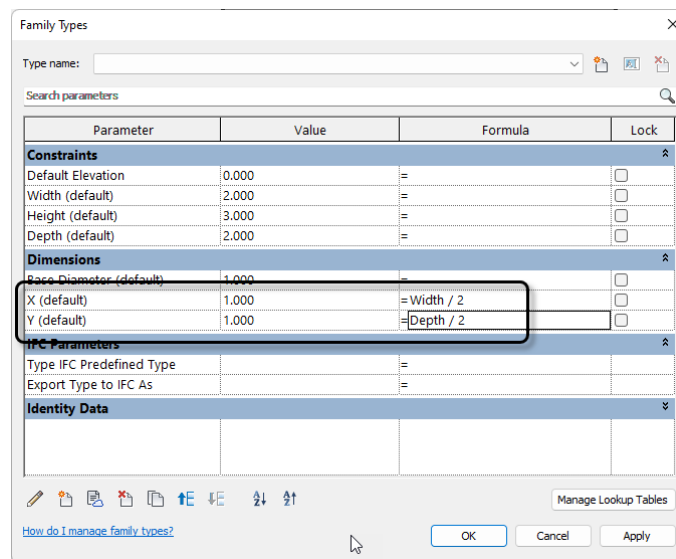

Figure 6—Edit the parameters to prepare them for the ellipse
- ⇒ For the Formula, type: **Depth / 2** and then click OK (see Figure 6).